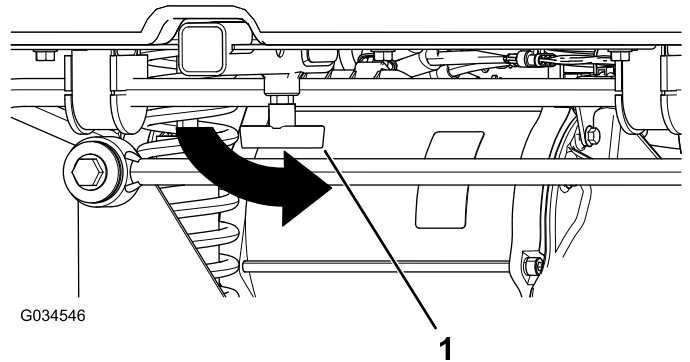

Figure 16
3. Tighten the “T” handle by rotating it counterclockwise (Figure 16).